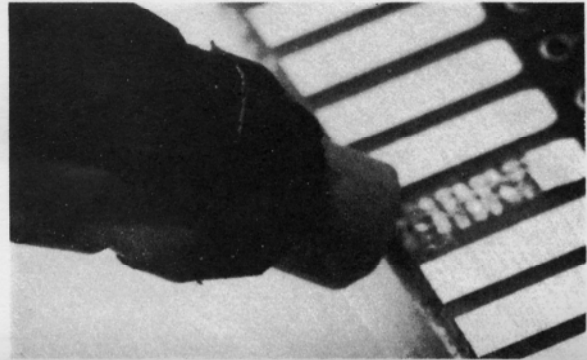

FIGURE 21. CLEANING CONNECTOR AREA
STEP 18. Remove any and all residue from the board area of the Edge Connector using the PACE Abrasive Stick. Clean excess area, with PACE Solvent (see Figure 21).